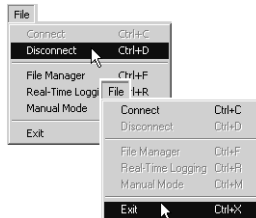

Figure 3-14. Click Disconnect then Exit
- Continue with other operations, or click **File ► Disconnect**, then **File ► Exit** to quit PC-CDU (Figure 3-14).